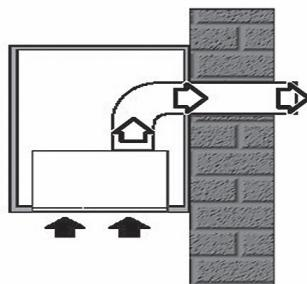

Fig. 5
- For the airing mode, mount the backflow valve on the output hole, and connect the output hole of the fan to the hole in the wall using flexible pipe (Fig. 5).